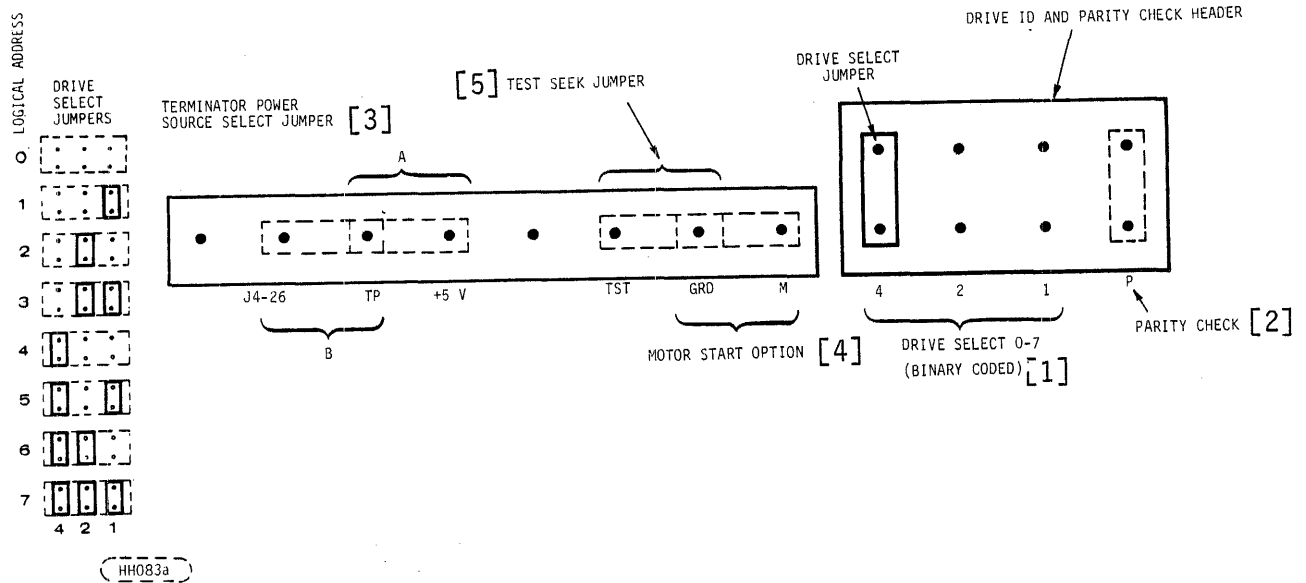

FIGURE 13. WREN III HH SCSI DRIVE ID AND OPTION SELECT HEADER
*See Figure 13 for configuration details.
Communication on the SCSI Bus is allowed between only two SCSI devices at a time. There can be a maximum of eight SCSI devices including the host computer(s) connected to the SCSI bus. Each SCSI device has a SCSI ID Bit assigned as shown in Figure 12. The SCSI ID is assigned by installing from 0 to 3 jumper plugs onto a connector in a binary coded configuration during system configuration. See Figure 13.
Install jumpers as shown in Figure 13 for SCSI ID selection. Refer to Figures 9 & 10 for the location of the drive select header. The WREN III HH can have one of eight ID bits selected by installing 0 to 3 jumpers in a binary coded configuration on the drive select header.